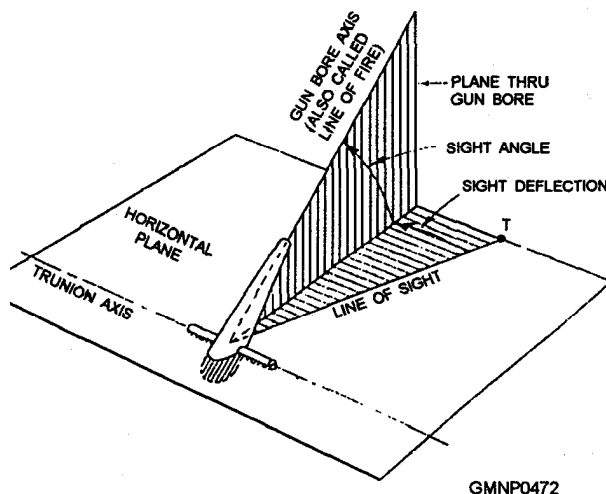

Figure 10-8.—Lead angles in a surface problem.
**LEAD ANGLES.**— Two lead angles are considered in the fire control problem— sight angle and sight deflection (fig. 10-8). Sight angle is the difference between the LOF and the LOS, measured on the plane perpendicular to the trunnion axis. Sight deflection is the angle that the plane through the gun bore is deflected left or right from the LOS.